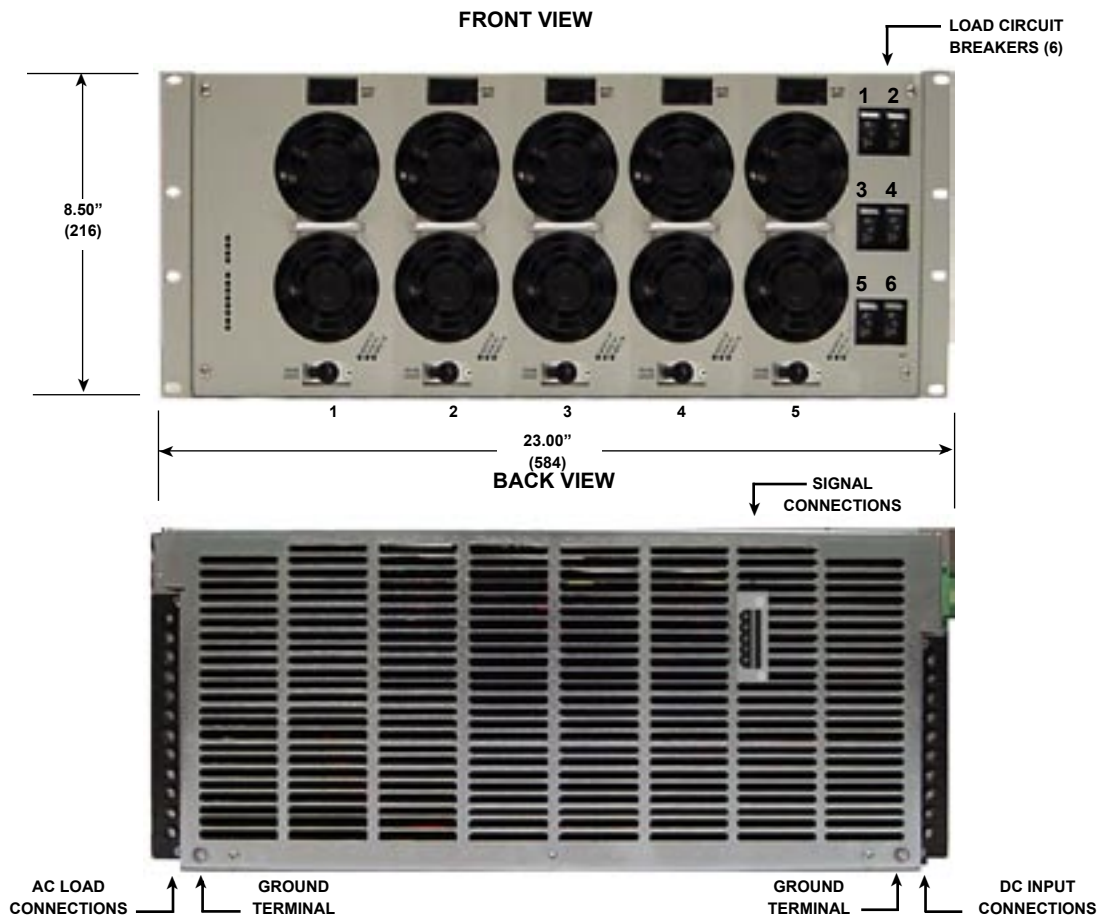

Figure 3. Front and Back Panels of IX12.5 Inverter System
- 7.3 The front and rear views of the INVR5U-HS shelf are shown in Figure 3. The shelf holds five of the INV2500-HS hot-swap inverter modules. On the right side of the front panel are six AC load breakers, each of which may be from 5 to 30 amperes.